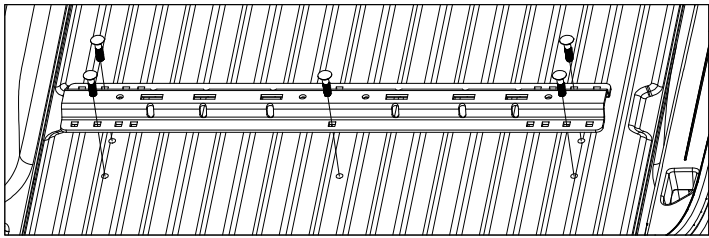
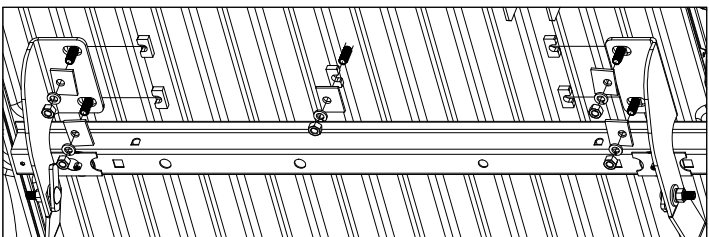

Figure E1: View looking into truck bed from rear of truck.
Figure E2: View under bed looking up toward cab. (Frame not shown)
1. **Install the rear mounting rail.** Re-position the rear mounting rail over the drilled 9/16" holes in the bed. Install a 1/2" carriage bolt through the mounting rail into each of the five drilled holes, as shown in Figure E1. Under the bed install an offset square washer, 1/2" flat washers, 1/2" lock washers and 1/2" finish nuts on each of the carriage bolts, see Figure E2. Place the U-shaped spacers. Hand tighten each nut.